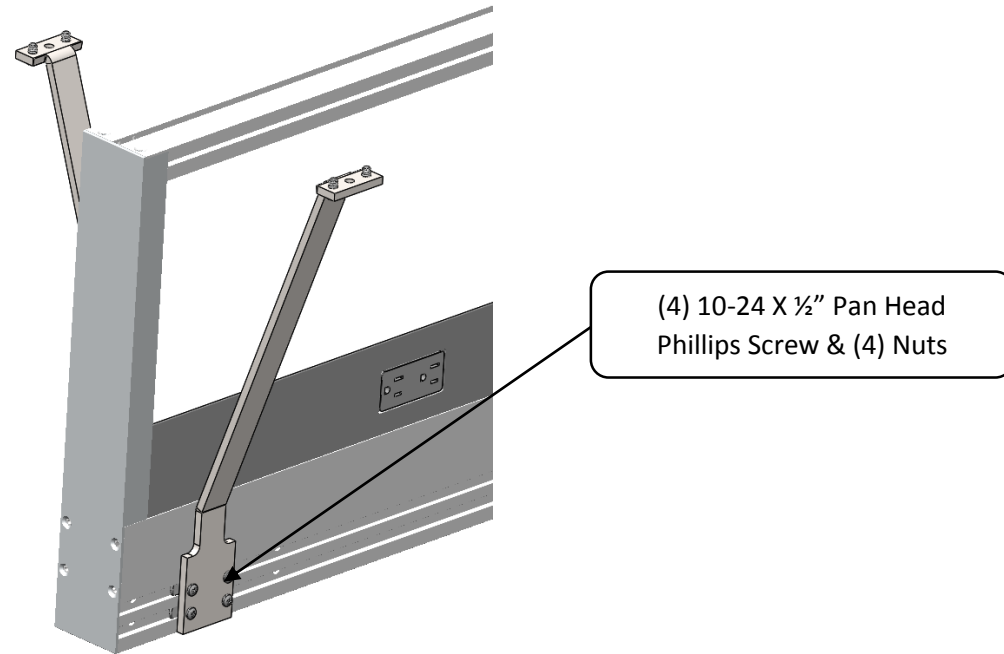
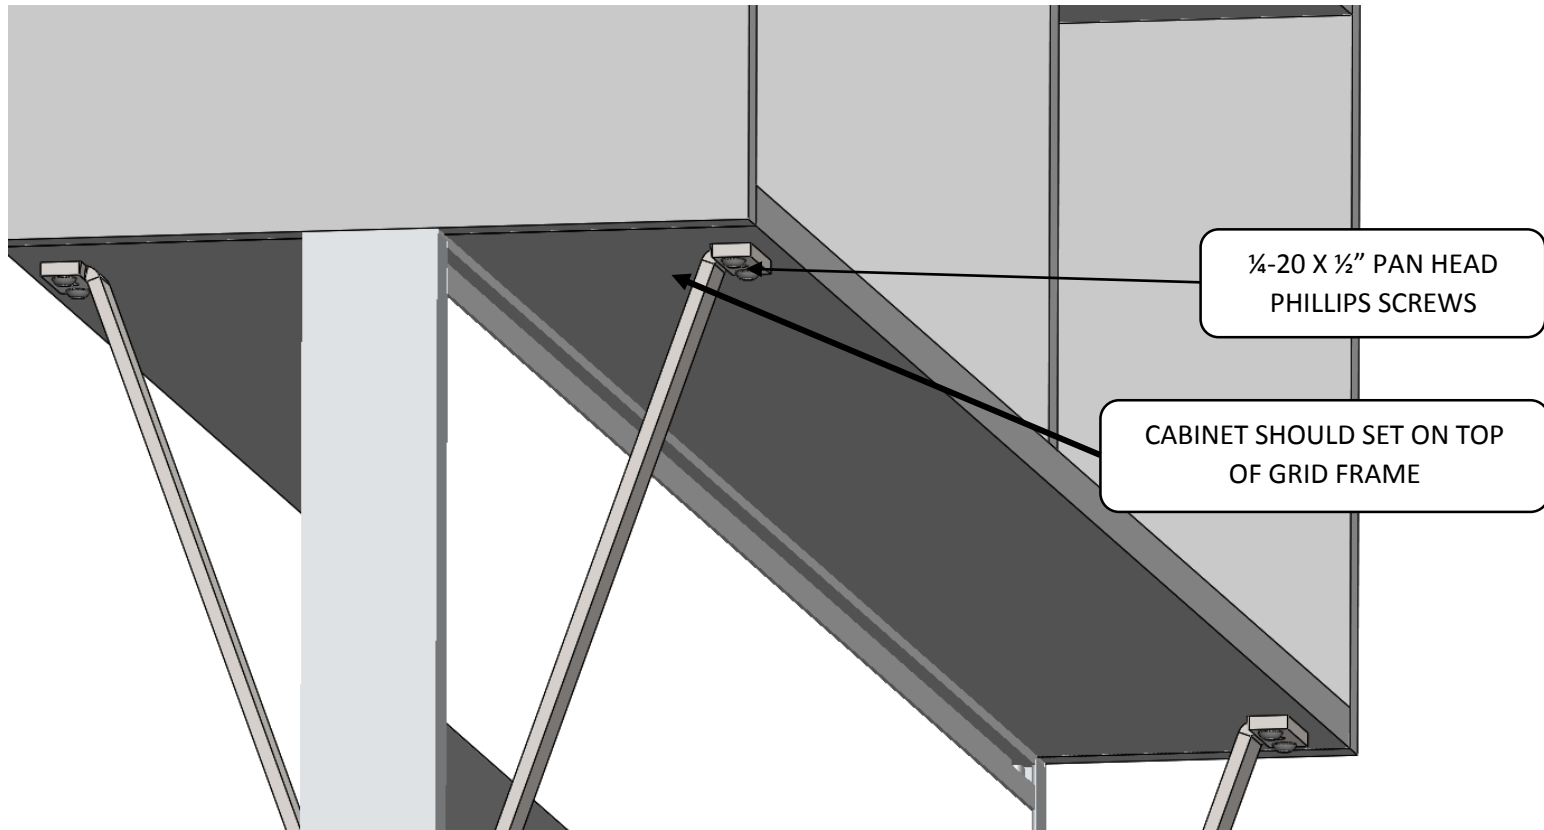

Figure 1
Figure 2
ATTACH THE SUPPORT BRACKETS TO THE GRID FRAME (4) SCREWS AND (4) NUTS AS SHOWN (Figure 1). ATTACH (4) SUPPORT BRACKETS AS INDICATED BUT DO NOT COMPLETELY TIGHTEN FASTENERS (SEE Figure 2)
CENTER OVERHEAD CABINET ON GRID FRAME, OVERHEAD CABINET SHOULD BE RESTING ON THE GRID FRAME AS INDICATED IN FIGURE 2. INSTALL (8) ¼-20 X ½" PAN HEAD PHILLIPS HEAD SCREWS TO SECURE CABINET TO SUPPORT BRACKETS. TIGHTEN SECURELY.